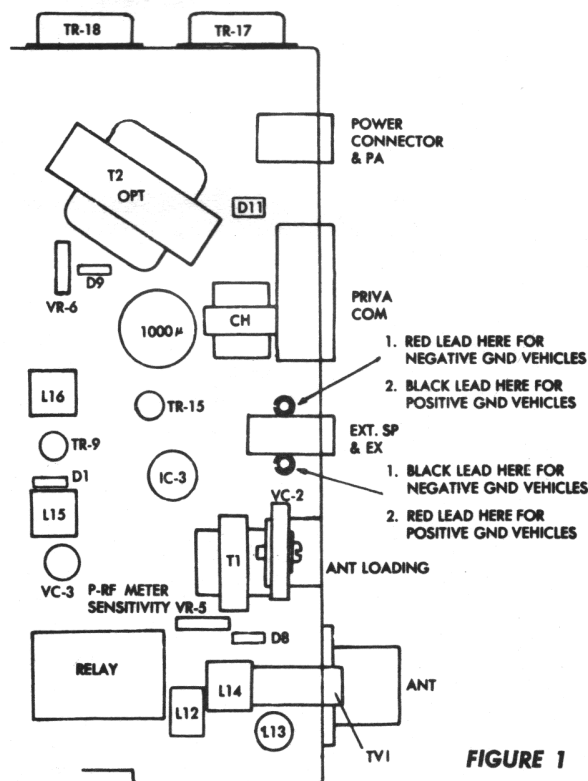

FIGURE 1
4. Refer to Figure 1 which shows the location of the two leads (red and black) which must